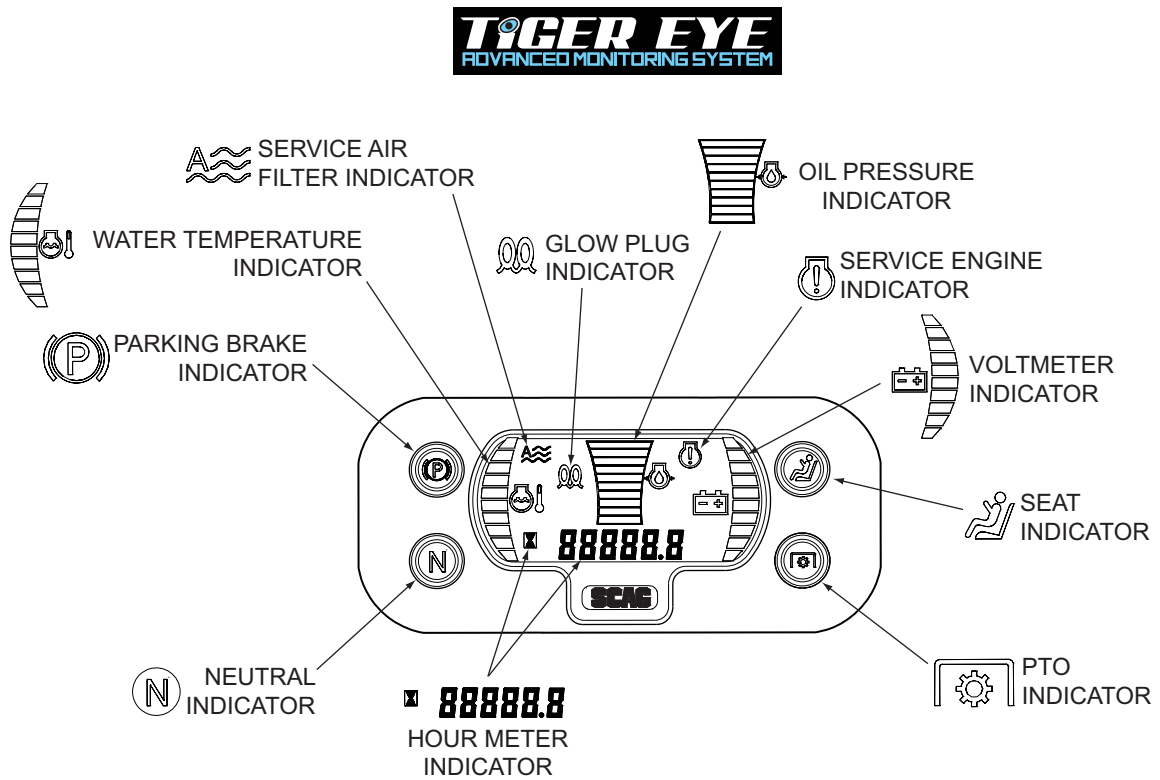

Figure 4-1. Tiger Eye Advanced Monitoring System
1. **Service Air Filter Indicator (Figure 4-1). Optional Accessory.** Indicates the condition of the engine air filter. Icon will display when it is time to change the air filter.
2. **Glow Plug Indicator (Figure 4-1). Used on Diesel Powered Units Only.** Indicator turns on when the key switch is turned to the PREHEAT position. Glow plugs must be preheated for 5 to 10 seconds before starting the engine.
3. **Oil Pressure Indicator (Figure 4-1). Used on Diesel Powered Units Only.** Indicates engine oil pressure. Reference the engine operator's manual for further information.
4. **Service Engine Indicator (Figure 4-1).** Indicates the maintenance reminder for the engine oil change. Has preset maintenance reminder and will start flashing scheduled maintenance 2 hours before preset time and continue flashing until 2 hours after. Automatically resets.
5. **Voltmeter Indicator (Figure 4-1).** Indicates the condition of the charging system. When the engine is running, in normal operating conditions, the bar graph should be in the 12 to 14 volt range.
6. **Seat Indicator (Figure 4-1).** Light will illuminate when the operator is in the seat engaging the seat switch.
7. **PTO Indicator (Figure 4-1).** Light will illuminate when the PTO (mower deck) switch is in the OFF position.
8. **Hourmeter Indicator (Figure 4-1).** Indicates the number of hours the engine has been operated. It only operates when the engine is running. Will start flashing with the Service Engine Indicator at scheduled maintenance 2 hours before preset time and continue flashing until 2 hours after. Automatically resets.
9. **Neutral Indicator (Figure 4-1).** Light will illuminate when the steering control levers are in the neutral lock position.
10. **Park Brake Indicator (Figure 4-1).** Light will illuminate when the park brake is in the engaged (ON) position.
11. **Water Temperature Indicator (Figure 4-1). Used on Liquid Cooled Models Only.** Indicates the operating temperature of the engine. If the engine temperature exceeds the maximum preset value, the indicator will flash and the Park Brake, PTO, Seat and Neutral indicator lights will flash in an alternating pattern.